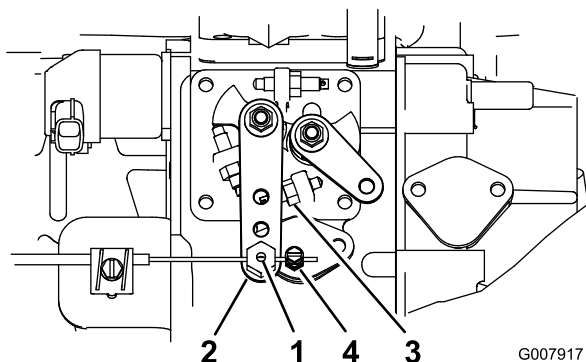

Figure 54
2. Loosen the throttle cable connector, on the throttle cable, next to the injection pump lever (Figure 54).
3. Hold the injection pump lever arm against the high idle stop (Figure 54).